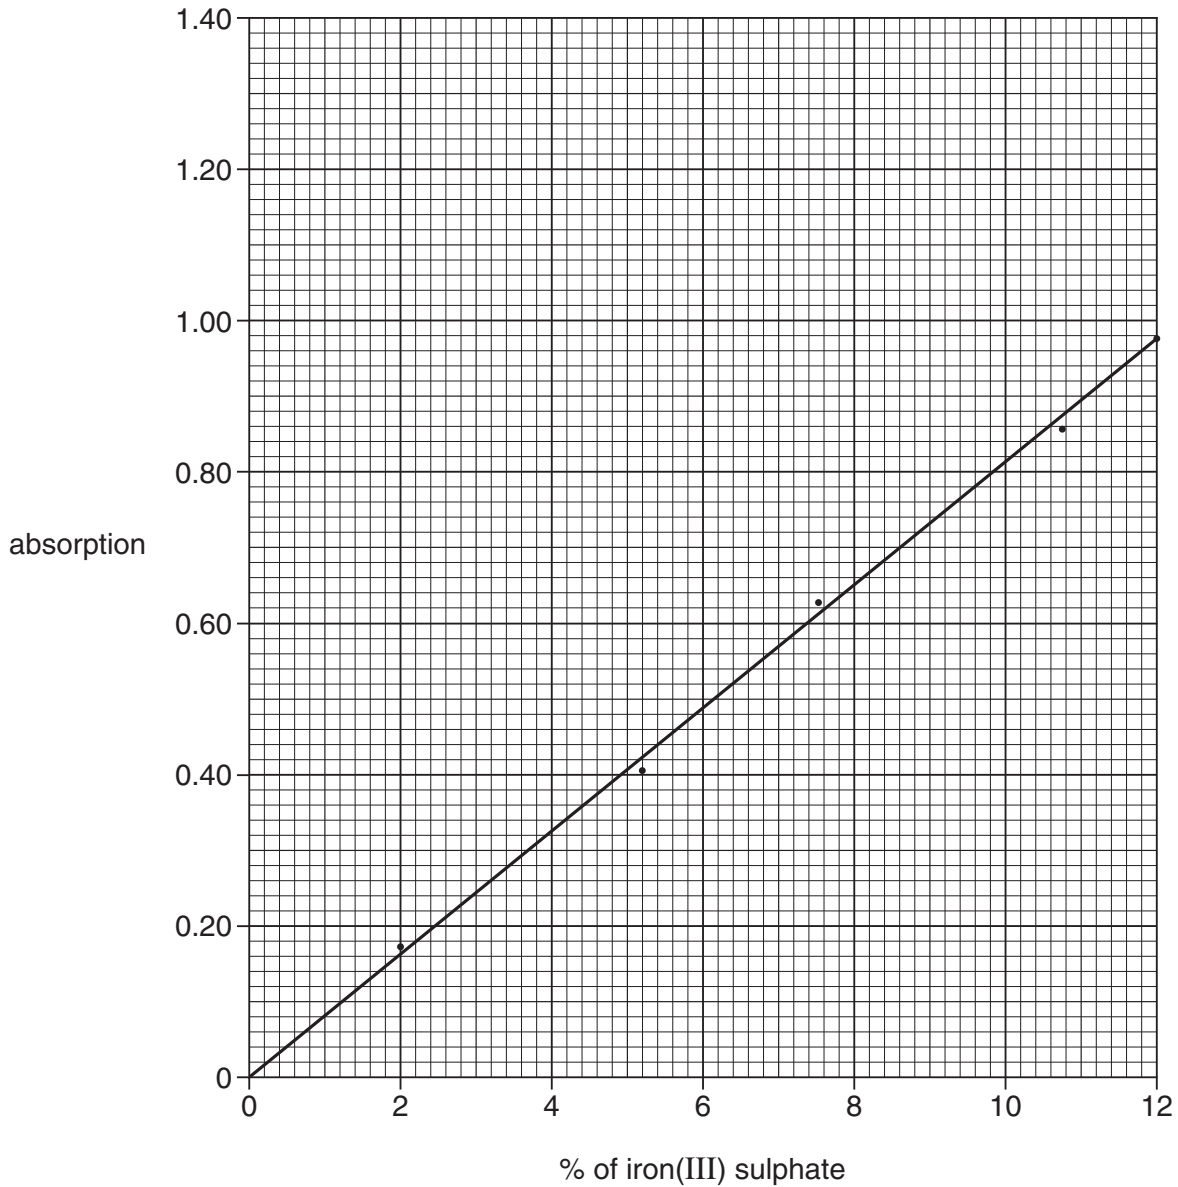

Fig. 1.3
- (iv) At the end of Stage 4 the students were disappointed to find that the crystals were brown instead of white. The brown colour was due to the presence of iron(III) sulphate. They devised a method to find the percentage of iron(III) sulphate present in their crystals using colorimetry. Their solution gave an absorption reading of 0.65. Use the graph, Fig. 1.3 to find the percentage of iron(III) sulphate present in their crystals.